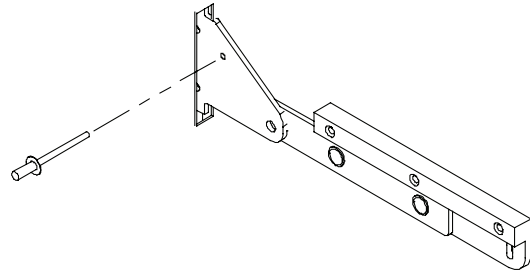

Figure 32: Insert Rivet/Screw/Nail to Keep Hinge Open
2. Open the oven door to its full open position and insert rivets, screws, or nails as shown in Figure 32 to hold the hinges in the open position.